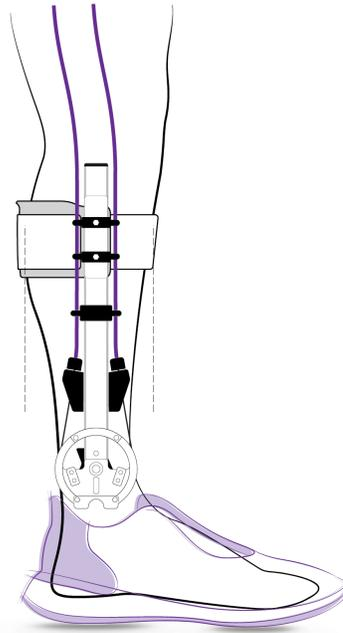

Figure 9. Calf cuff aligned with the largest part of the calf musculature
- Adjust the height of the calf cuff so that it aligns with the largest part of the calf musculature. This can be done by having the participant stand on the footplate and sliding the calf cuff up or down to the appropriate height. (Figure 9)